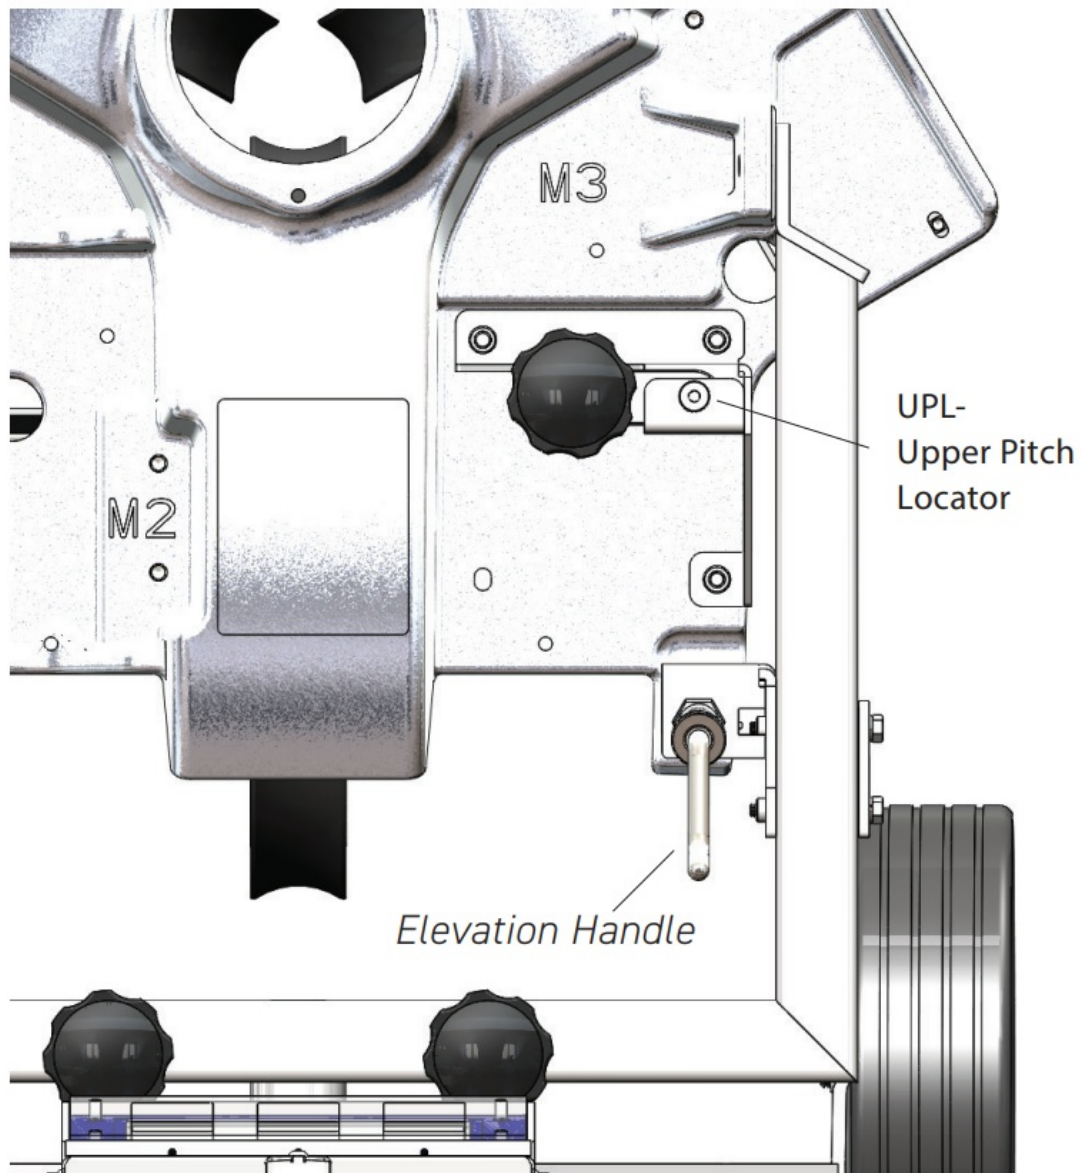
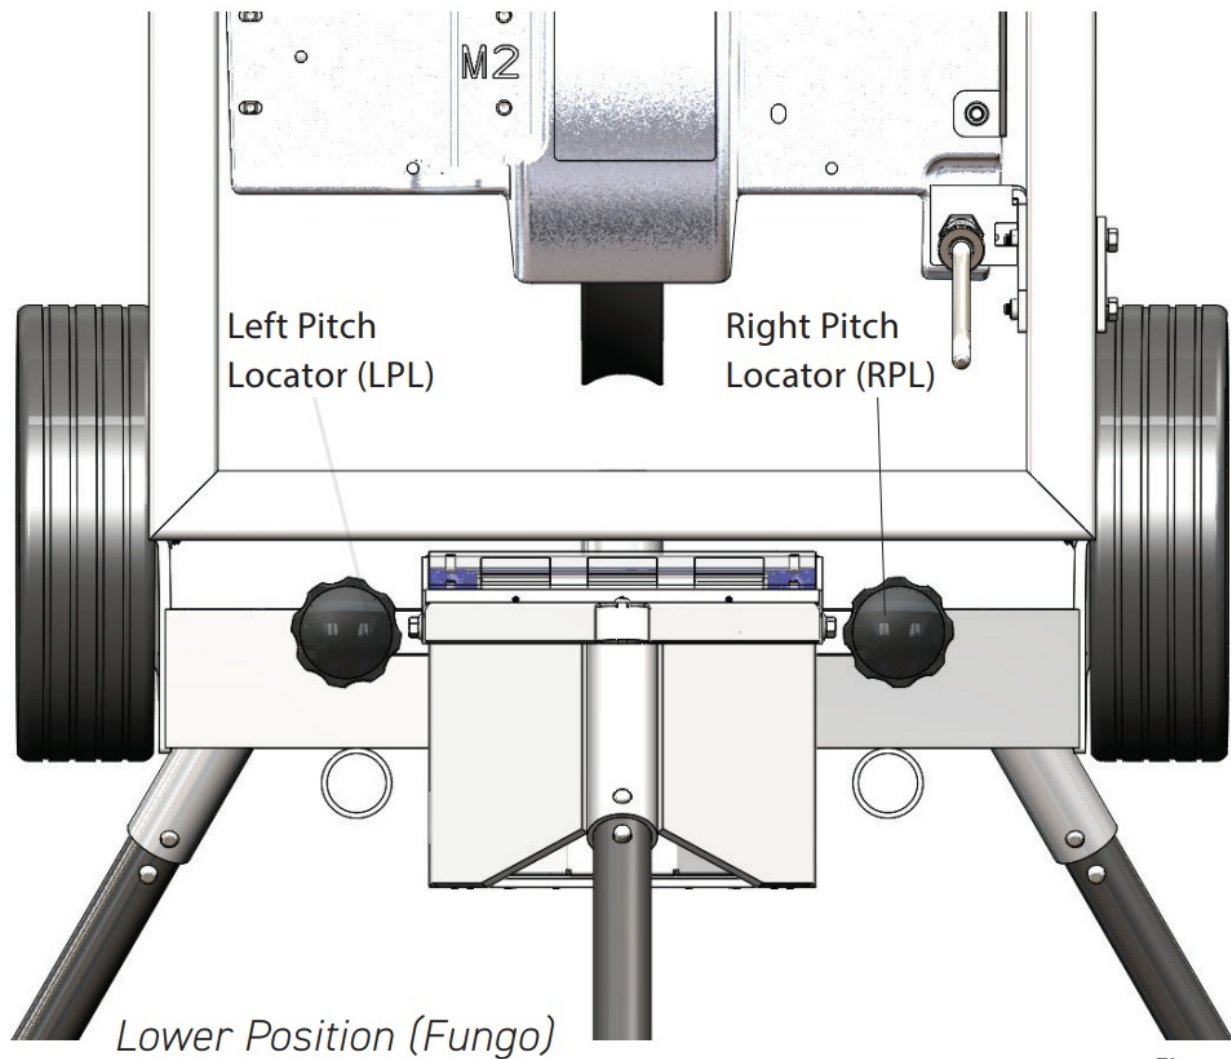

Figure 14
Figure 15
When UPL is fipped over (Figure 14) to free vertical position, throwing head can be tilted back for infield for fly balls, time drivers, infield pop-ups and catcher's pop-ups;
When UPL is flipped over (Figure 14) to free vertical position, throwing head can be tilted back for infield for fly balls, time drivers, infield pop-ups and catcher's pop-ups;
When both LPL and RPL are in lower position (Figure 15) and UPL (Figure 14) is in the free position (Figure 14) throwing head is free to pivot instantly in my direction to throw ground balls and fly balls to any spot on the field (fungo).
- a. Back off right and left pitch locators. Turn both locators down into lower position as shown in Fig 15, page 10.